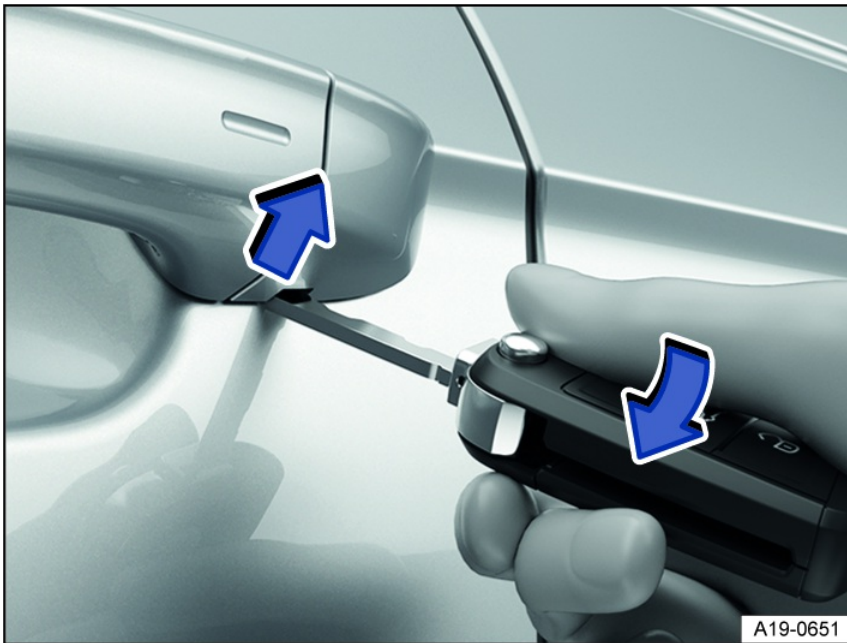

Fig. 55 Driver's door handle: prying off the cap.
2. On the driver door handle, insert the mechanical key from below into the opening on the cover *fig. 55* (arrow).